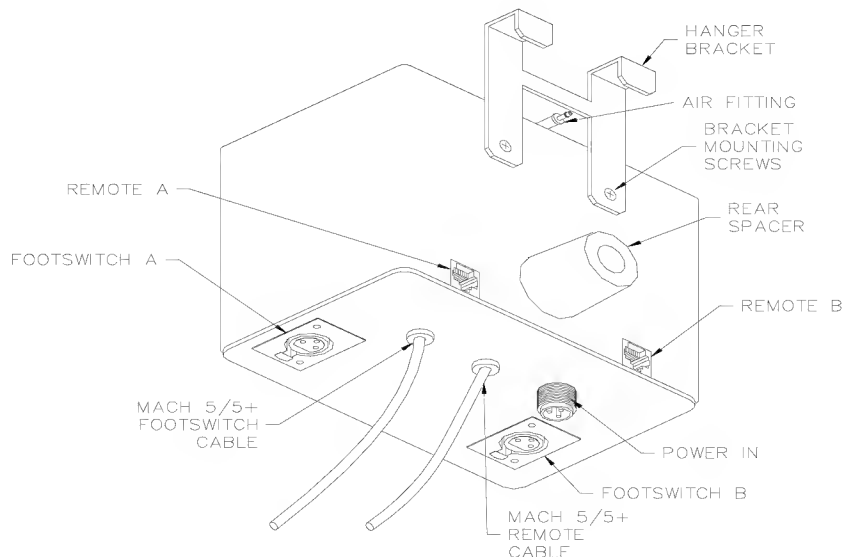

Figure 2
3. Install the hanger bracket onto the rear of the Multi-Operatory Accessory using the Phillips head screws provided in the accessory kit, as shown in Figure 2.
6. Install the connectors for the existing Mach 5/5+ footswitch and remote onto the Multi-Operatory Accessory, grouping the connectors on either side (but the same side) as shown in Figure 2. Use the 20 foot cables supplied with the Multi-Operatory Accessory for both remotes.
7. Install the connectors for the second operatory footswitch and remote onto the Multi-Operatory unit, grouping the connectors on the remaining side as shown in Figure 2.
11. Remove the thumbscrews (4) from the black pinch tube covers located on the top of the unit, and remove the black covers. Install a pinch tube over each of the fittings on the ends of the provided 20 ft long air/abrasive